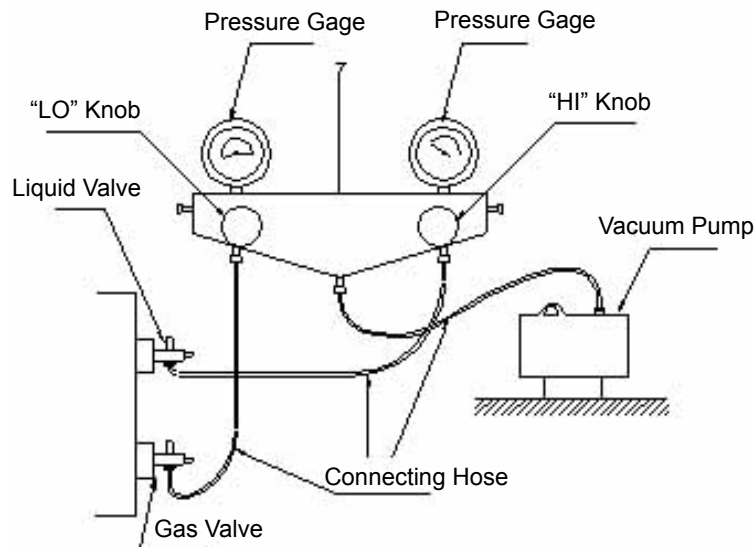

Fig.40
10. If conditions allow, use a vacuum pump to remove air out from the valve. Refer to Figure 40